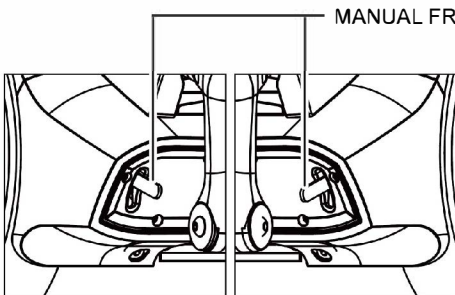

Fig B1. Drive Mode (Drive Engaged)
2. Push the two levers down ward to engage the drive motors.(Fig B1)